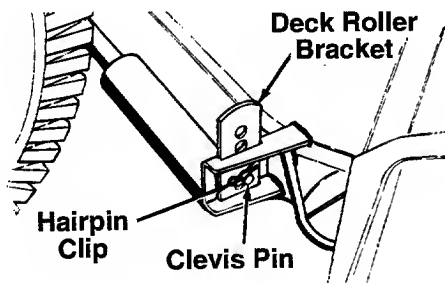

FIGURE 9.—50" Deck
- ← Remove the hairpin clips and clevis pins from each end of the deck roller. Insert the deck roller brackets up through the brackets provided on the rear of the deck. Attach with clevis pins and hairpin clips just removed, using the same hole location on each side of the deck. See figure 9.